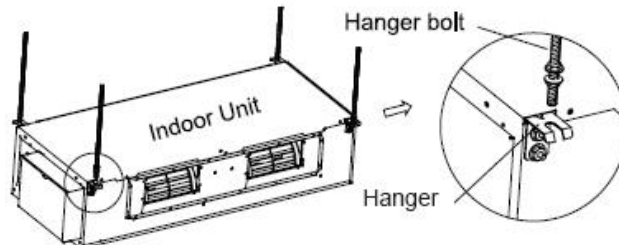

Fig. 4.5
3. Install the hanger to the unit. (Fig. 4.5)